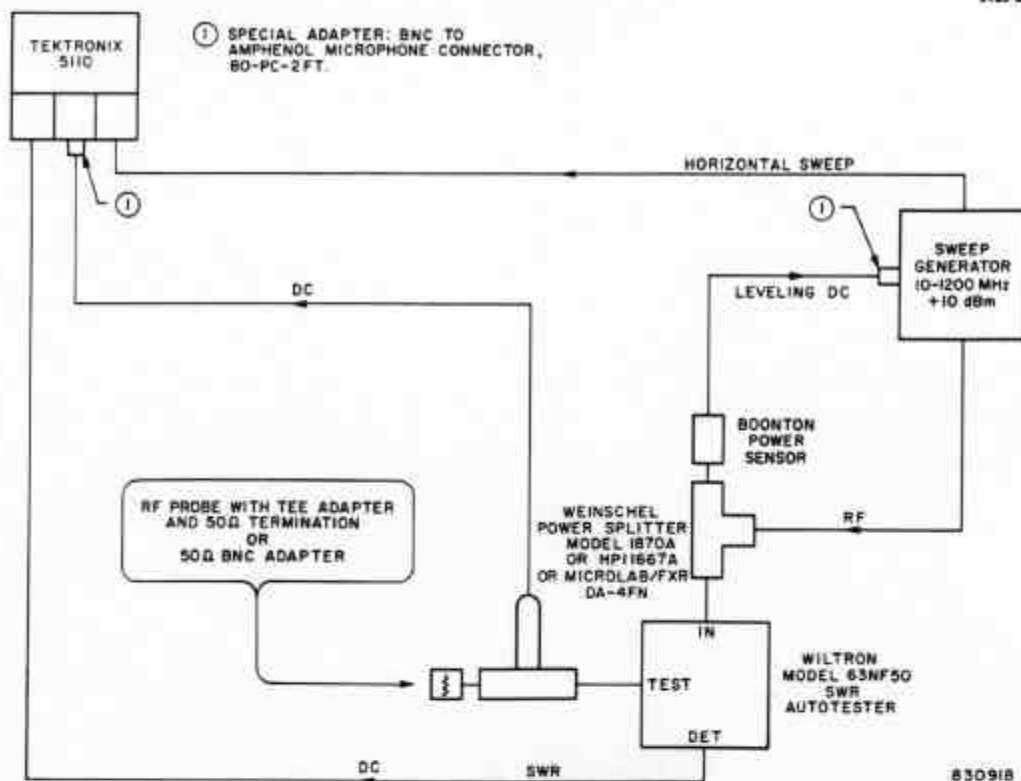

Figure 5-2. Swept Frequency Response Test Setup
a. Connect the equipment as shown in Figure 5-2, and temporarily connect the probe under test to the instrument. Adjust the output control of the sweep generator for a read-